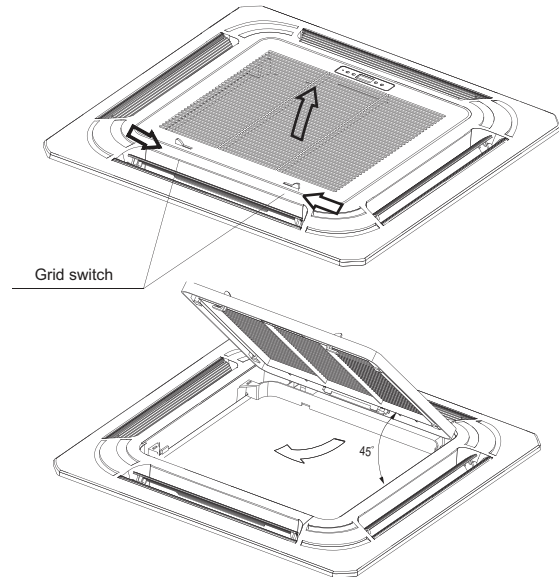

Fig. 12 —Removing Grille from Panel
1. Remove grille from panel by sliding grille latches toward the center of the panel. Lift the grille up at a 45° angle and pull to detach it from the panel. See Fig. 12.